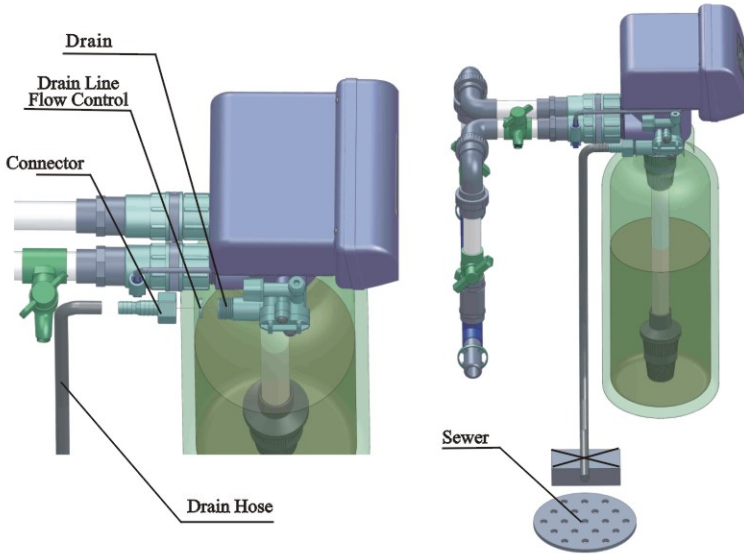

Figure1-4
- If the valve belongs to time clock type, there are no step ② and ③.
⑤ **Install drain pipeline**
- a. As the Figure 1-4 shows, slide the drain hose connector into drain outlet.
- d. Locate the drain hose well as the Figure1-4 show.
- Be sure not connect drain with sewer, and leave a certain space between them, avoid wastewater be absorbing to the water treatment equipment, such as showed in the Figure1-4.
⑥ **Connect brine tube**